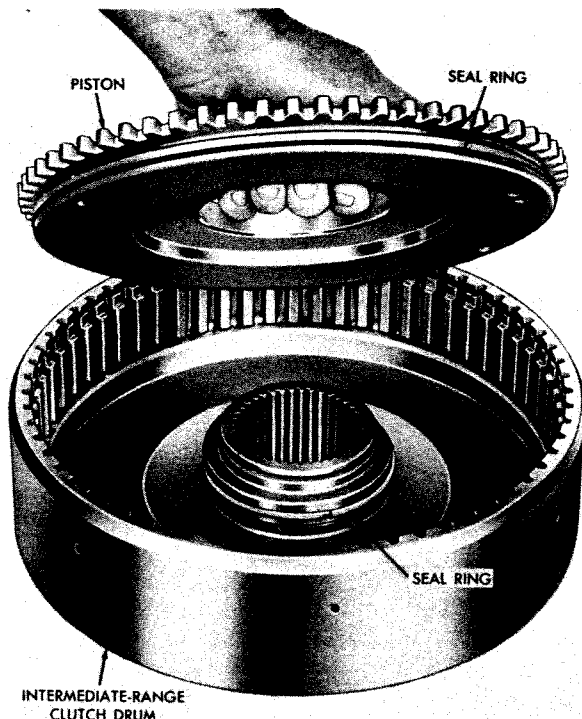

Fig. VI-21. Removing (or installing) intermediate-range clutch piston assembly
(3) Remove the piston return spring and the piston assembly (fig. VI-21). The piston assembly can be dislodged by bumping the clutch drum on a flat wood surface.
(4) Remove the hook-type seal ring from the inner hub of the clutch drum (fig. VI-21).
(1) Install the hook-type seal ring onto the inner hub of the clutch drum (fig. VI-21).
(2) After installing the outer seal ring 4 (B, foldout 10) and expander 18 (if used), lubricate the hook-type seal ring and the outer circumference of the piston. Install the piston assembly, flat side first, into the clutch drum (fig. VI-21).